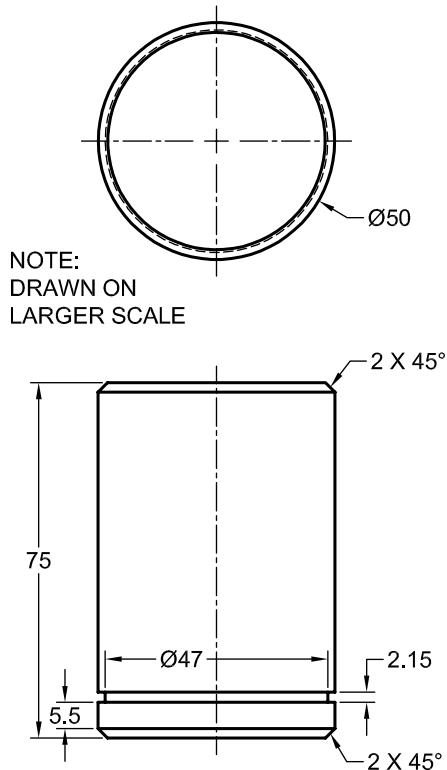

Figure 17-40 A shaft with a groove
1. Create the shaft with groove, refer to Figure 17-40 for dimensions.